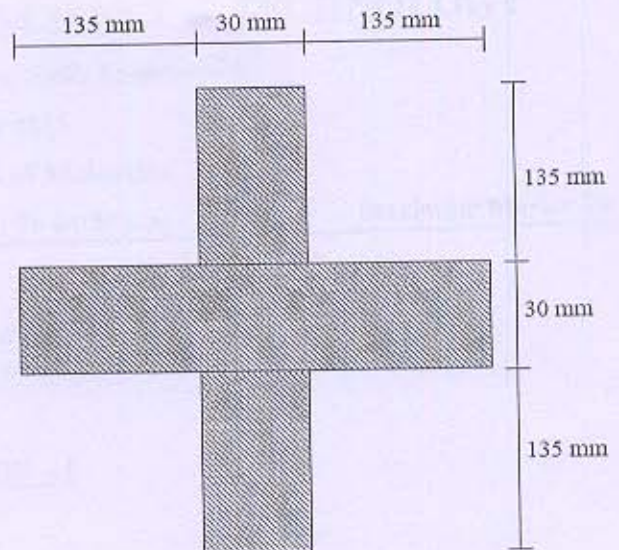

Figure 8
- (c) A beam in the form of cross is shown in **Figure 8** is subjected to shear force of 100 kN. Sketch the shear stress distribution diagram. [06]